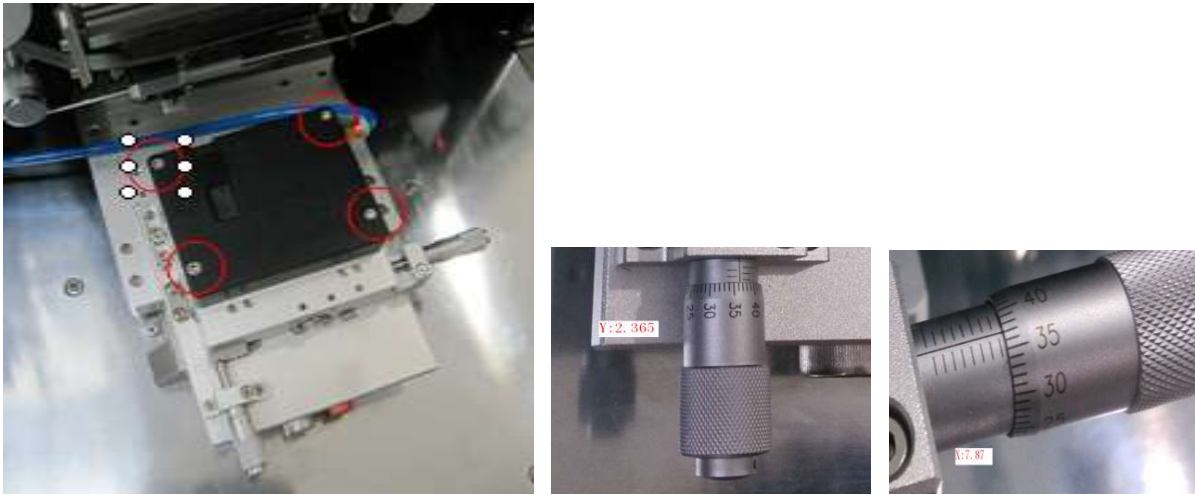

Figure 3.1
3.1 Different products frequently require different alignment fixtures to help in alignment of the ACF to the prebonding area. In order to change a fixture, remove the four bolts shown in red circles in figure 3.1 and remove and replace the fixture with a new fixture and tighten the four bolts. On the Manual Model menu, press “Table Cyl in” -> to cause the fixture to move toward the prebond head. Press “Heating tip down”-> after turning the prebond head pressure adjust knob to a low pressure such as 0.1mpa in order to cause the prebond head to descend to the fixture slowly. Align the prebond head to the prebond area (lift the prebond head using your hand and adjust micrometer slightly for adjustment).